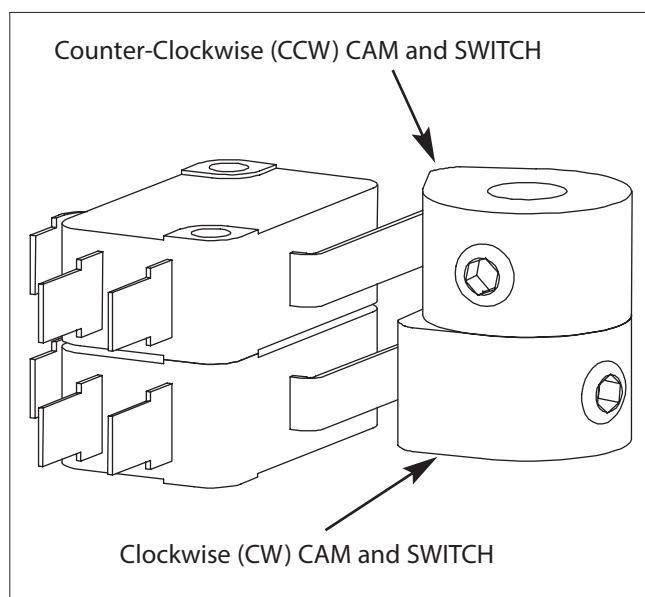

Figure 3.
1. Loosen the set screw in the cam using a 1/16" hex wrench. The bottom cam controls the clockwise end-of-travel, and the second cam, (from the bottom) controls the counter-clockwise end-of-travel (**See Figure 3**).